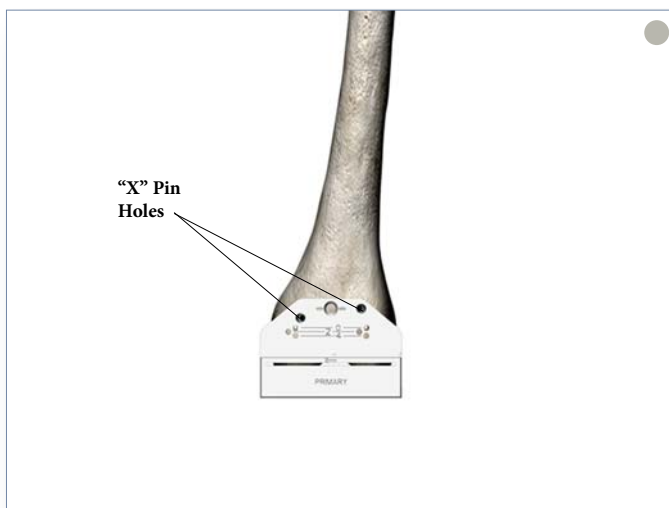

Figure 9
- ▶ After the resection guide is pinned in place, the alignment guide is removed. Release the resection guide from the alignment guide by pushing and rotating the locking knob 1/4 turn counter-clockwise. Remove the IM rod, and the Distal Femoral Alignment Guide, leaving the Distal Femoral Resection Guide in place (Figure 9).